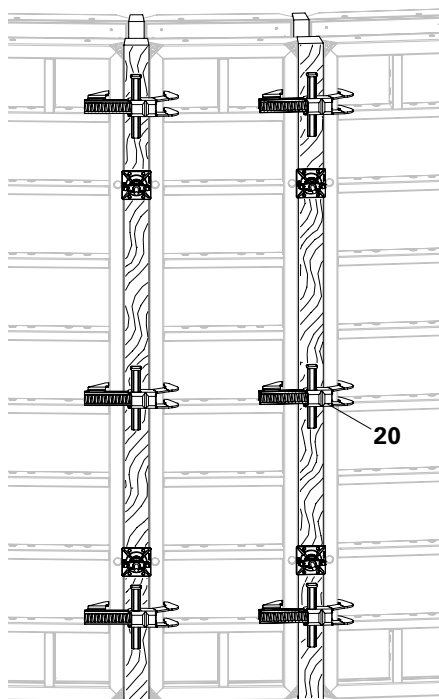

Fig. A16.03
- Do not set the Alignment Coupler BFD (20) on the struts. (Fig. A16.03)